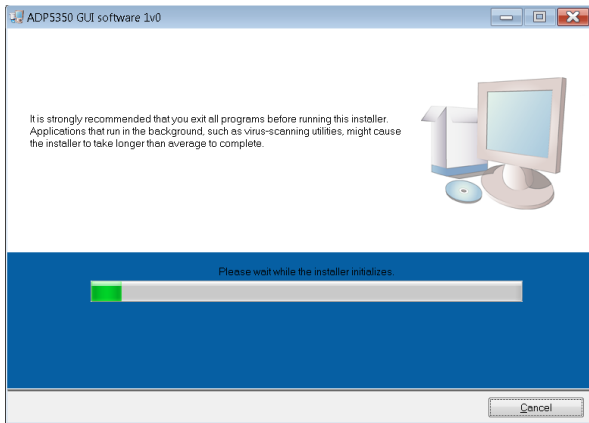

Figure 3. **ADP5350** Evaluation Software Setup
1. Launch the **Setup.exe** file. The dialog box shown in Figure 3 appears.